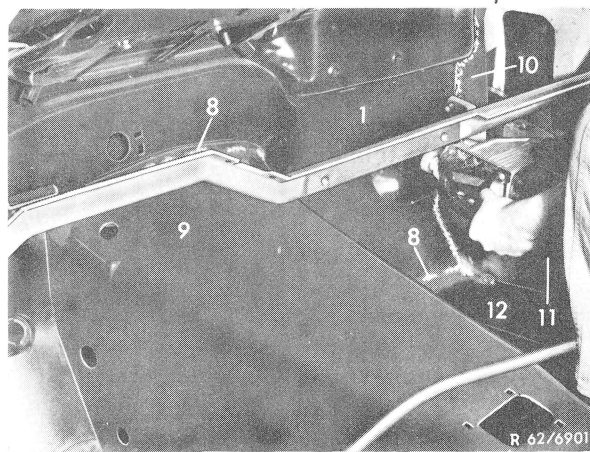

Figure 5
**21** Connect front wall (1) to front wall pillar inner sheet (10) by spotwelding starting from inside vehicle (Fig. 5).